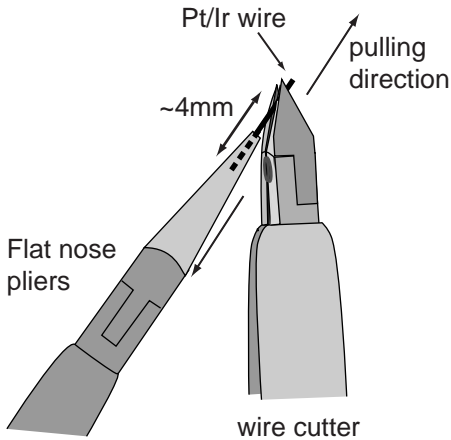

Figure 3-1: Cutting the STM tip
- ① Hold the end of the wire firmly with the pliers.
- ② Holding the wire with the pliers, move the cutters at a length of approximately 4 mm, as obliquely as possible (*Figure 3-1: Cutting the STM tip*).
- ③ Close the cutters until you can feel the wire, but do not cut the wire.
- ④ Pull in the direction shown in *Figure 3-1: Cutting the STM tip*. The tip needs to be torn off rather than cleanly cut through, in order to obtain the required tip sharpness.